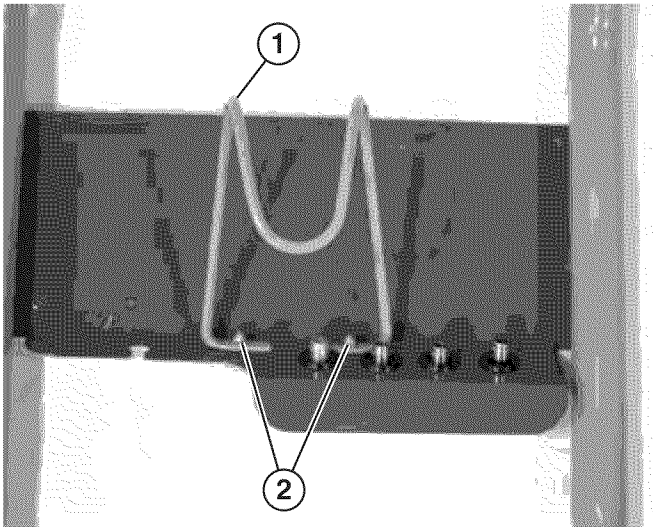

Figure 8 – Installing Hose Bracket
7. Install the hose bracket to the handle using the M5 bolts and nuts (see Figure 8).